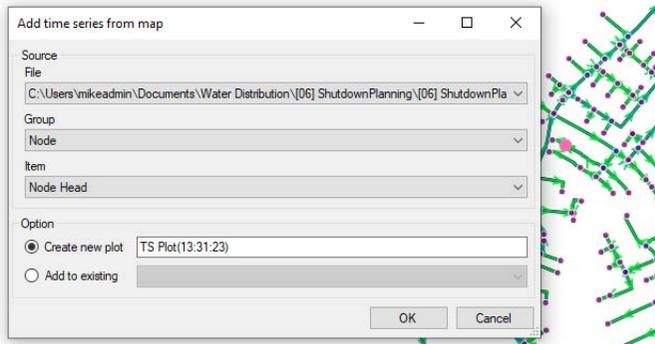

Figure 19.28 Select and display time series from a node
- **TS from map.** This tool allows for creating a time series plot directly from a selected item on the map (i.e. Map View) (Figure 19.28).